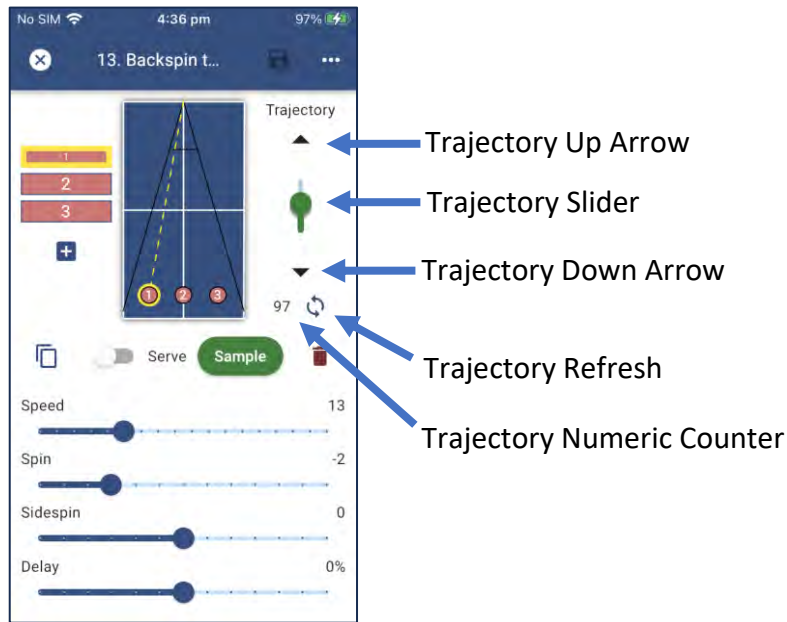

Figure 3-64
The Trajectory setting raises or lowers the Ball (throw angle). There are two ways to change the trajectory of a Ball. The first is to press either the Trajectory Up Arrow or Trajectory Down Arrow. The second is to drag the Trajectory slider either up or down. Small adjustments to Trajectory are accomplished most easily using the up/down arrows. (Figure 3-64)
3.5.3 Speed (Figure 3-64)
3.5.4 Spin (Figure 3-64)
3.5.5 Sidespin (Figure 3-64)
3.5.6 Delay (Figure 3-64)